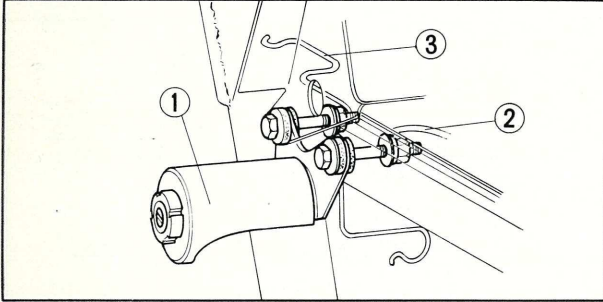

Fig. 2-61 ① Main switch bracket
② Ground (earth) cord
③ Throttle cable clip
5. Attach main switch bracket as in Fig. 2-61.